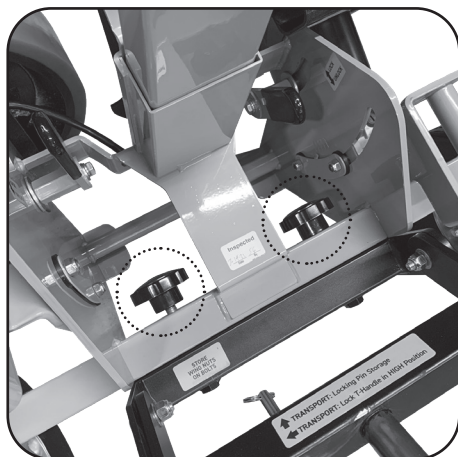

Figure 2 Remove both knobs.
1. Using knobs (See Figures 3) which are stored on bolts, attach throwing head to undercarriage (See Figure 2), tighten wing nuts (B) securely to undercarriage.
2. Insert 3 legs into sockets. (See Figure 2)